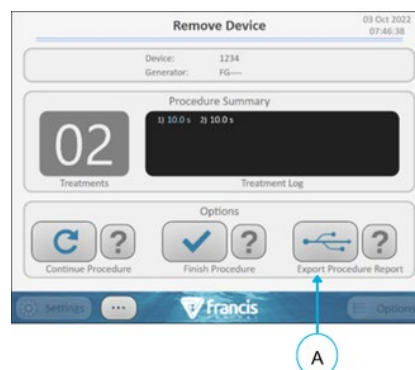

Figure 14-11: Export Procedure Report
2. Select **[Export Procedure Report]** on the Options menu of the Remove Device screen (**Figure 14-11**) (**A**).